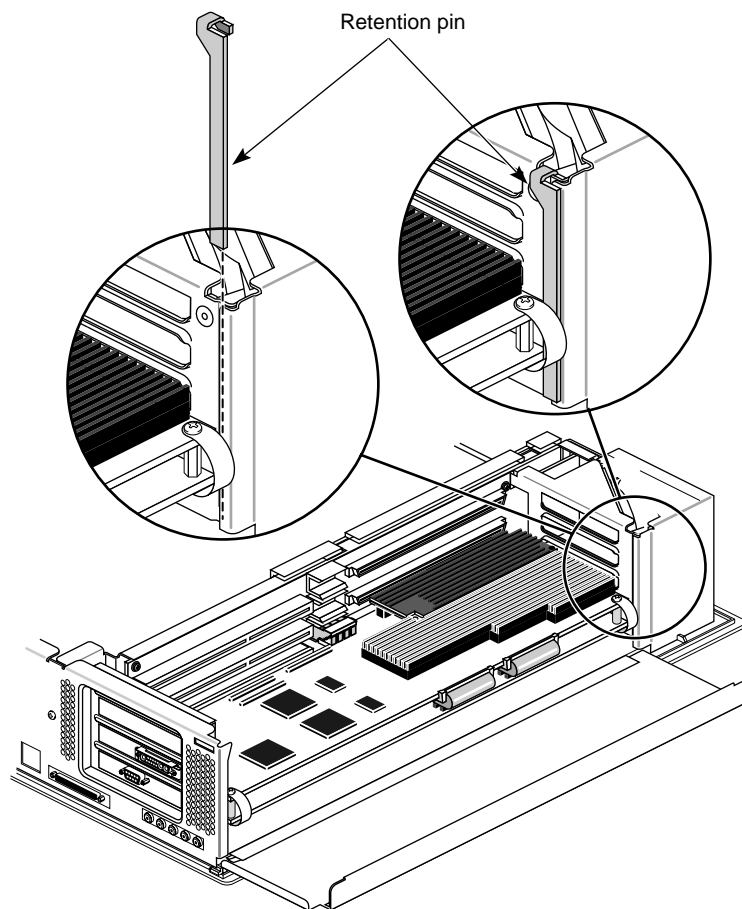

Figure 4-9 Removing the Retention Pin
- Grasp the retention pin on the right-front end of the board set and pull it up and off. See Figure 4-9.